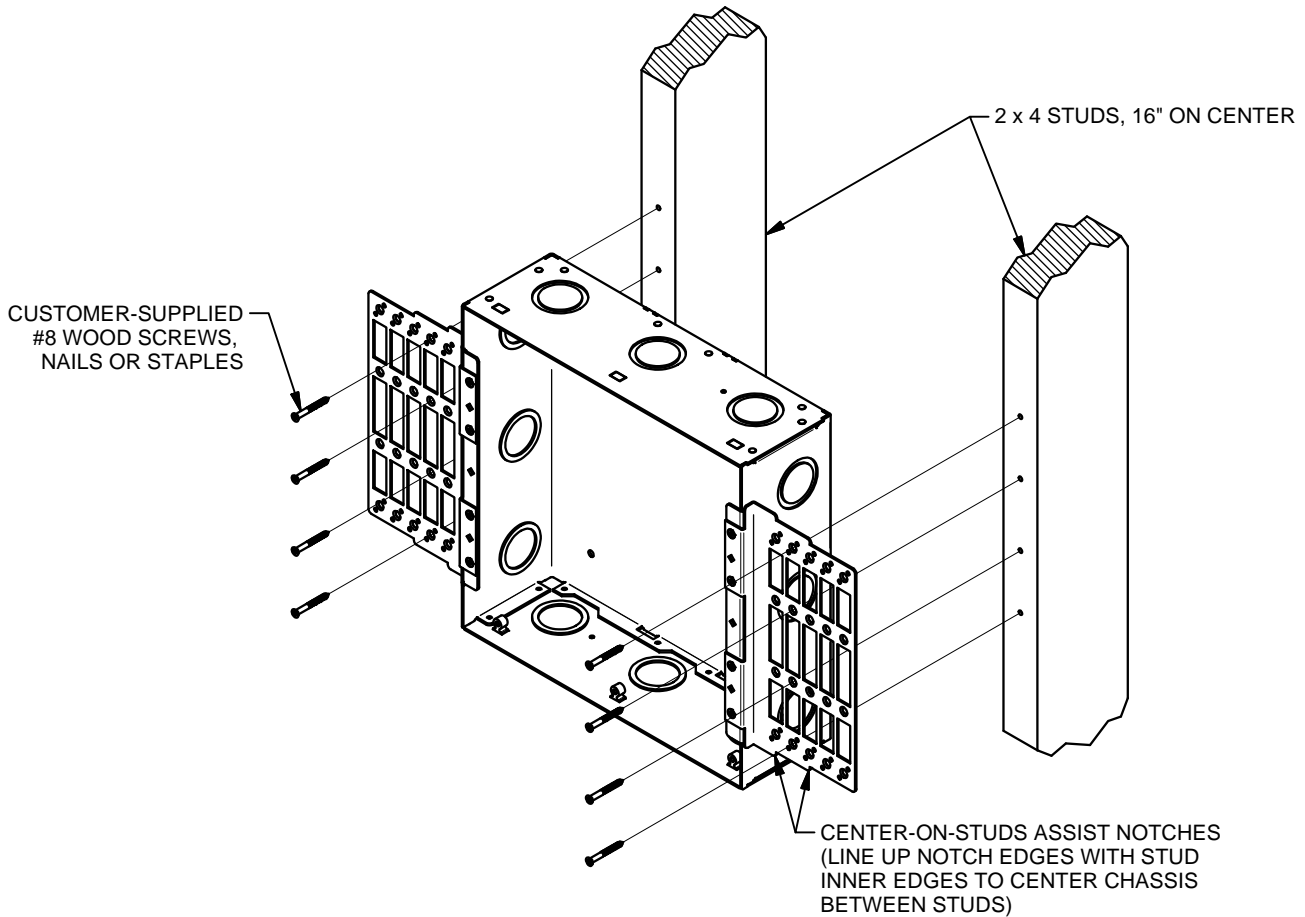

FIGURE 16
2. INSTALL BOX ASSEMBLY ONTO STUDS AS SHOWN IN FIGURE 16.